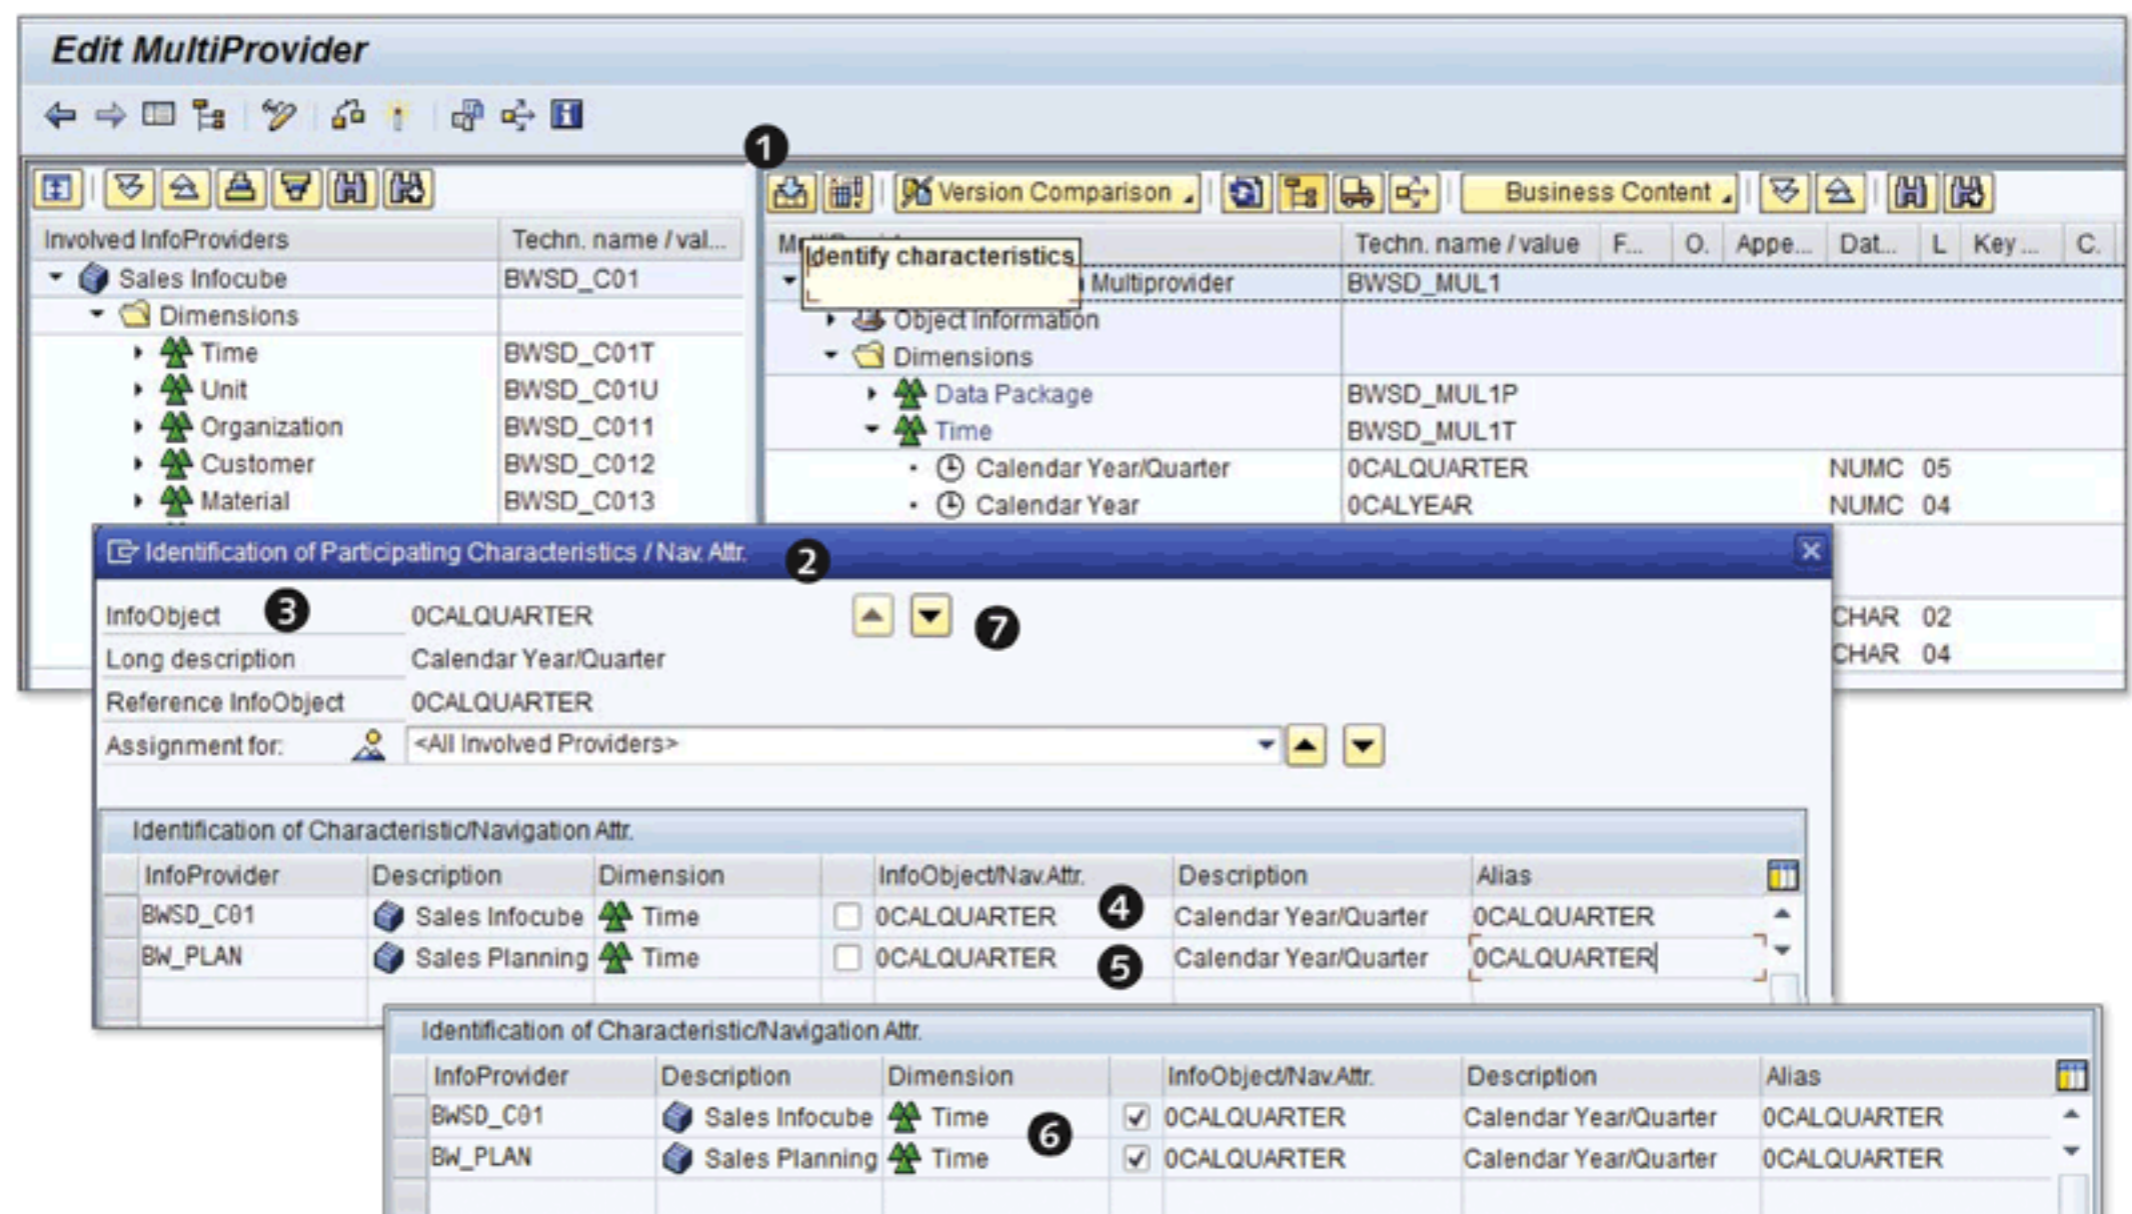

Figure 6.10 Edit MultiProvider: Identify Characteristics
Click on the IDENTIFY CHARACTERISTICS icon, as shown in ❶ of Figure 6.10. The IDENTIFICATION OF PARTICIPATING CHARACTERISTICS/NAV. ATTR. box appears (❷). It shows each characteristic included in the MultiProvider and offers the matching characteristics or navigational attributes available from the included InfoCube.
As shown in ❸ of Figure 6.10, it shows the characteristic 0CALQUARTER from the MultiProvider and offers matching characteristic 0CALQUARTER from the SALES INFOCUBE (BWSD_C01) (❹). It also offers the characteristic 0CALQUARTER from the SALES PLANNING CUBE (BW_PLAN) (❺). You need to confirm this matching by selecting the checkbox (❻).